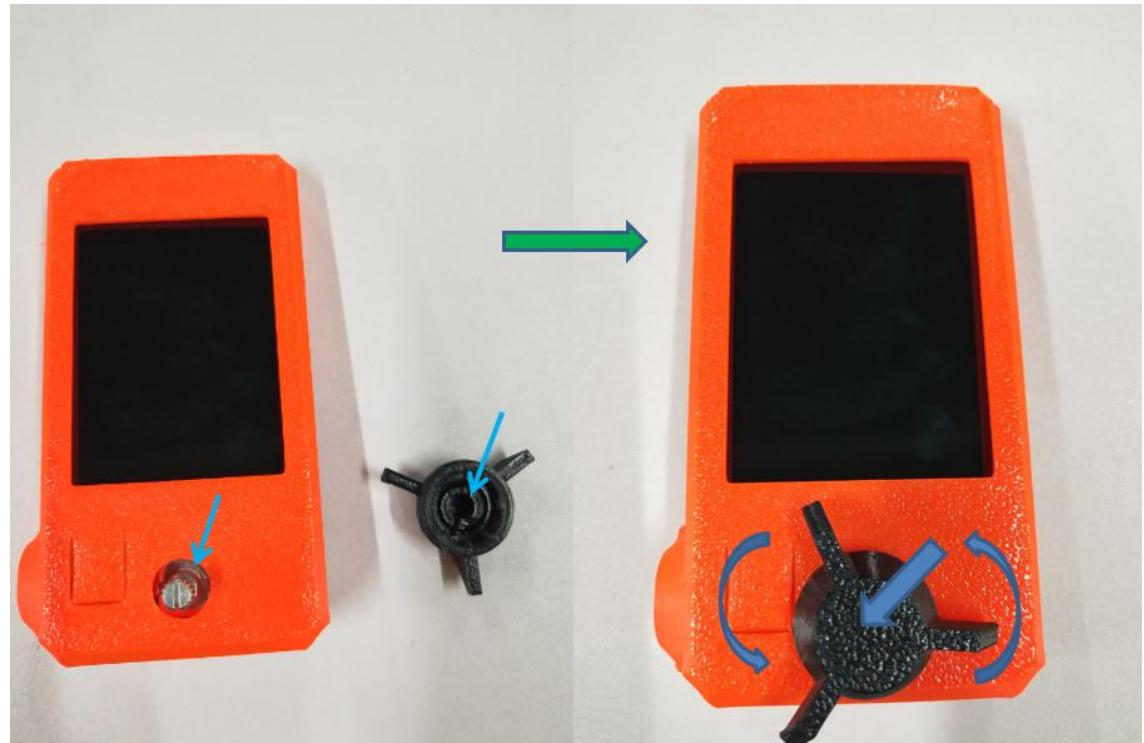

Figure 1.13.4
**Step 1-13-3:** As shown in Figure 1.13.4, install the display button on the display button, press it lightly to the end, rotate to check whether the button can be rotated and pressed.